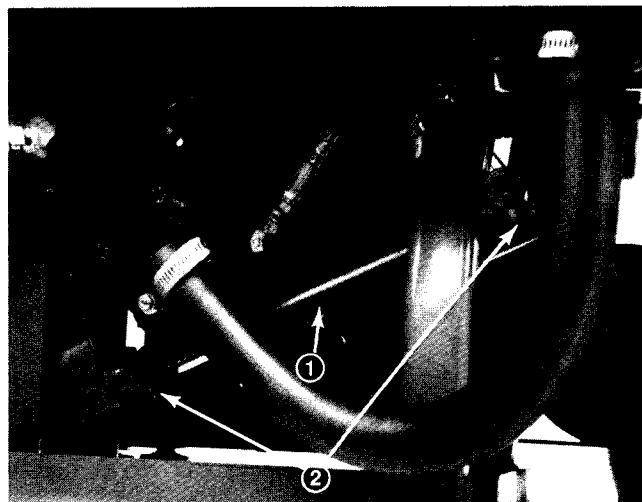

Figure 31
3. Remove capscrews securing top and bottom of cylinder to machine (Fig. 31). Remove cylinder from both pivots simultaneously.